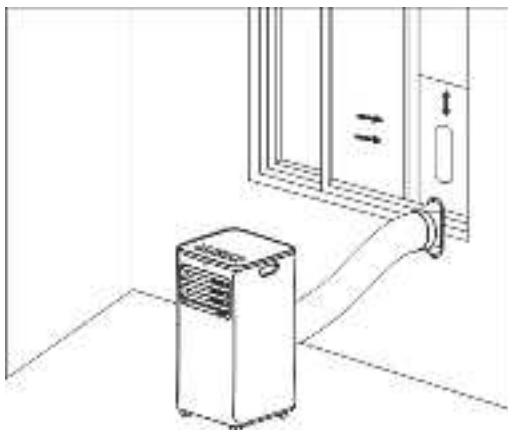
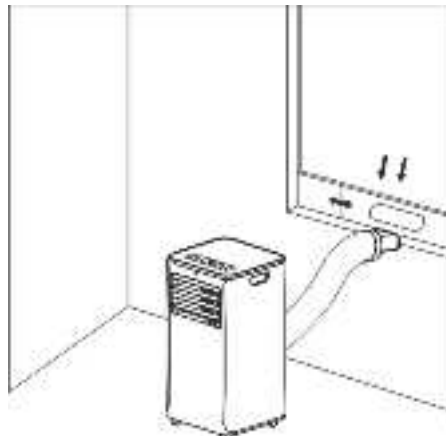

Figure 5
Figure 6
2) Elongate the exhaust pipe and snap the flat end of the exhaust pipe joints into the hole of the window sealing plate assembly (as shown in Fig.5 and Fig.6) .